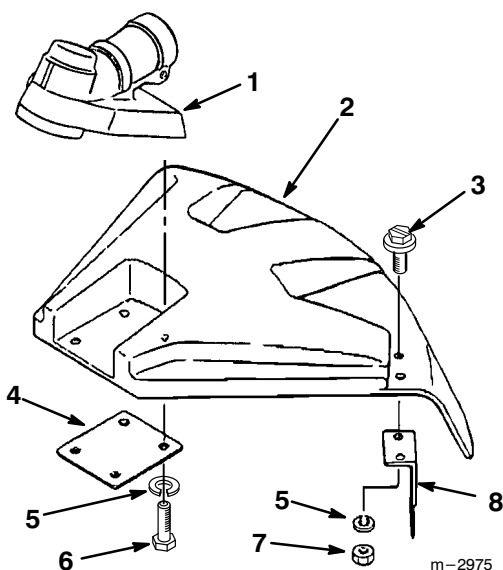

Figure 5
1. Fasten the string cutoff blade to the trimmer head shield with two M5 x 25 screws, lock washers and hex nuts as shown (Fig 5).